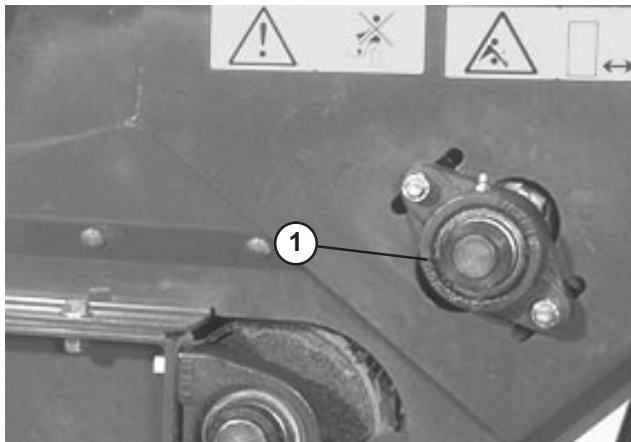

Figure 17
1. Loosen nuts securing bearing housing (Fig. 17) to right side of machine.